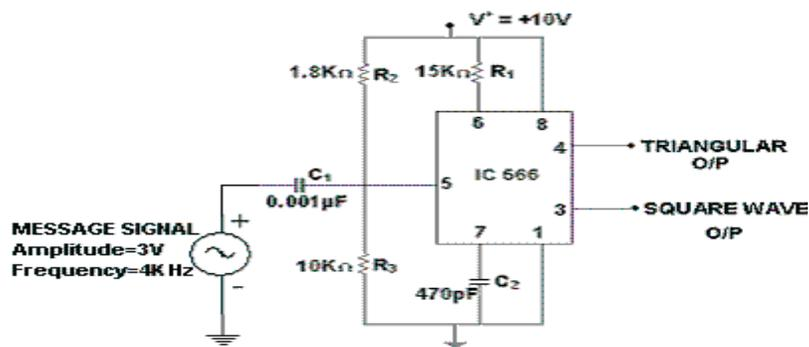
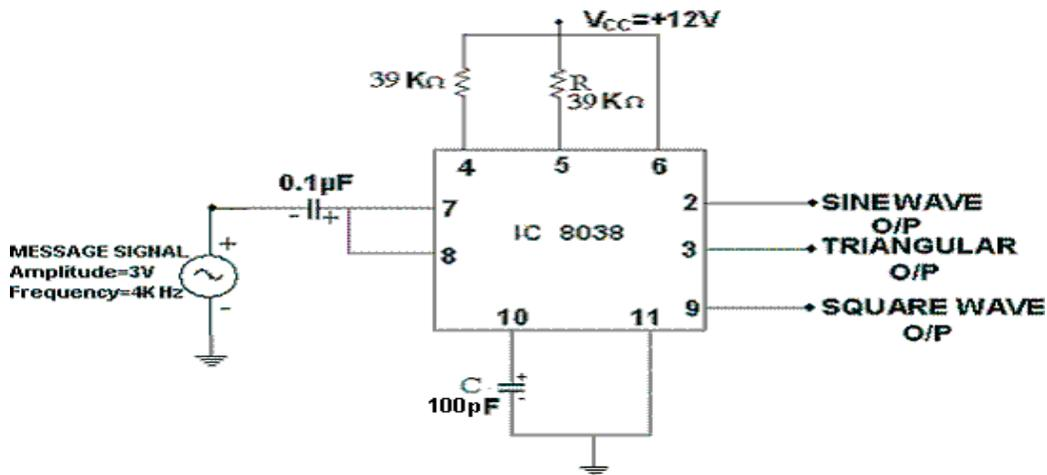

Fig.1.FM Modulator Using IC566
Fig.2.FM Modulator Circuit
1. The circuit is connected as per the circuit diagram shown in Fig.2 (Fig.1 for IC566)